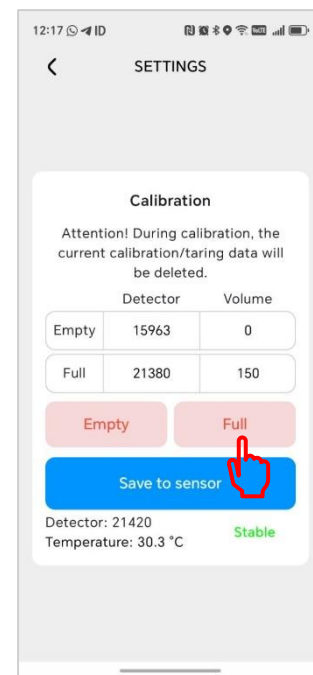

Fig. 5.19
5. Enter the fuel volume in the second line and wait until the detector displays a stable value, then click the "Full" button. The line will display the full tank detector value (Fig. 5.19).